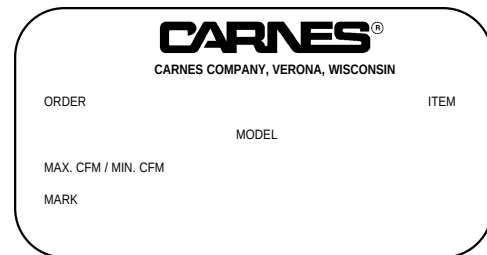

Figure 1
1. The diameter of the inlet duct in inches must be equal to the listed size of the ARRE Terminal Unit, e.g., a duct diameter that measures six (6) inches must be fitted to a unit Size 06.
3. It is preferred that the installer attempt to obtain a minimum of three (3) inlet diameters of straight duct ahead of the terminal unit inlet to achieve optimum control accuracy. (Figure 1)